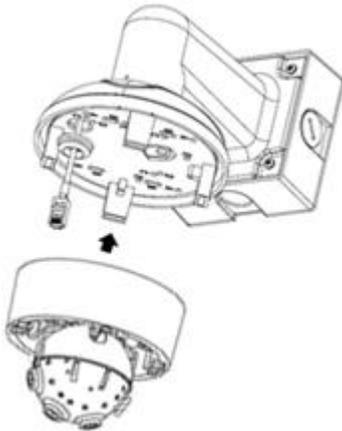

Figure 4
7. Align the hole on SurroundVideo® G5 Mini camera with the hole on mounting plate, and install the grommet on camera housing as shown in Figure 4.